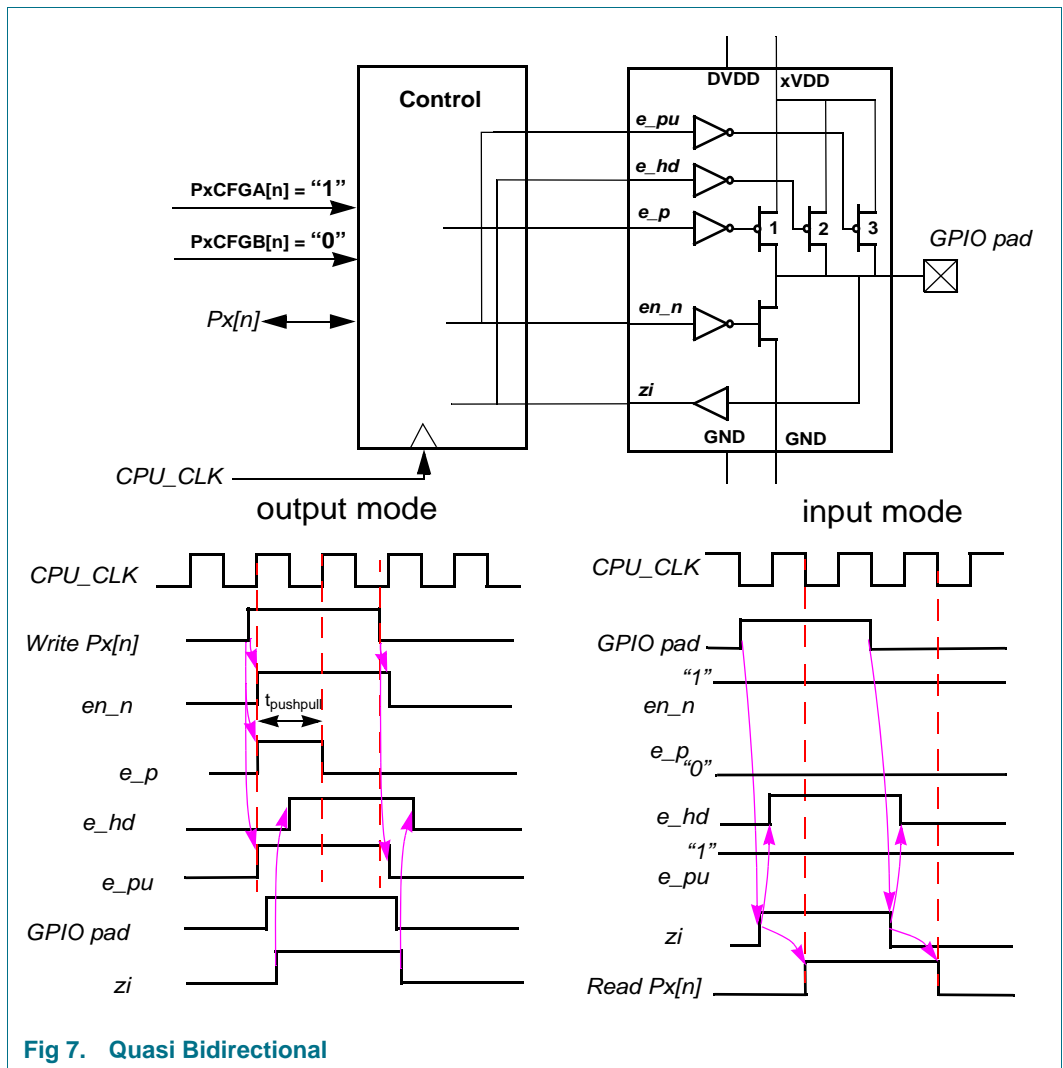

Fig 7. Quasi Bidirectional
**Remark:** When in Hard power down mode, the P72 to P70\_IRQ pins are forced in quasi bidirectional mode. Referring to Figure 7,  $e_n = e_{pu} = "1"$ ,  $e_p = "0"$ . And  $e_{hd} = "1"$  if P7x pin value is "1" and  $e_{hd} = "0"$  if P7x pin value is "0".
**Remark:** When in Hard power down mode, the P35 to P30 pins are forced in quasi bidirectional mode. Referring to Figure 7, en\_n = e\_pu = "1", e\_p = "0". And e\_hd = "1" if P3x pin value is "1" and e\_hd = "0" if P3x pin value is "0".